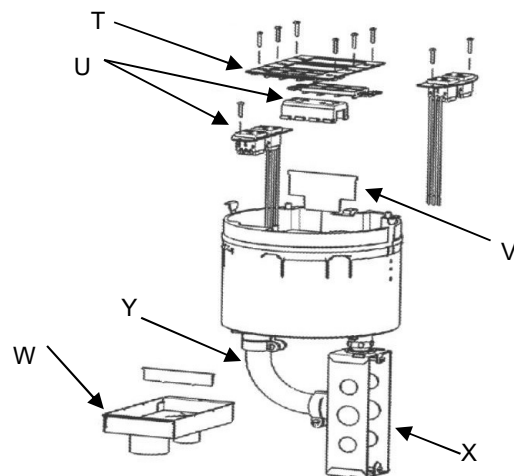

Fig. 12
To convert installed Hubbell 8" fire-rated poke-through from recessed cover application to furniture feed cover application, use Component Kit S1R8PTFFCOMPKIT. Remove installed recessed cover, device plates (T), devices (U), dividers (V), fitting box (W), junction box (X) and flex metallic tube (Y). See Fig. 12.